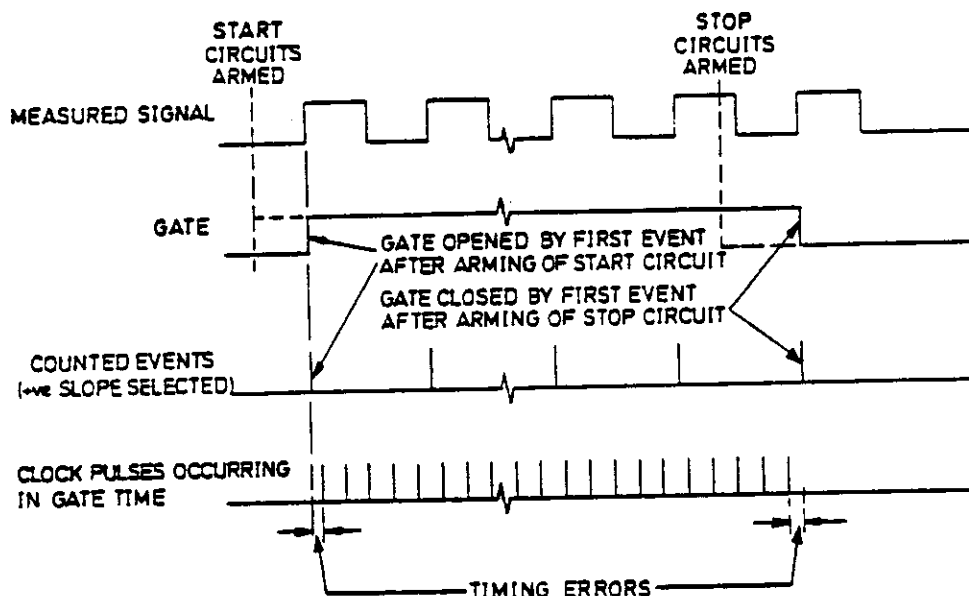

Figure 5.5 - Basic Reciprocity Counting Technique
5.3.3.1.2 The circuits within MCC1 and MCC2 are configured by the microprocessor according to the measurement function selected. The recipromatic counting technique is used. With this technique the measured signal, not the counter clock pulses, controls the start and stop of the measurement period (gate time) as shown in Figure 5.5. The gate time, therefore, extends over an integral number of cycles of the measured waveform. The gate time is measured by counting the clock pulses which occur while the gate is open. This leads to timing errors at both ends of the gate time, as shown. The TEC circuit enhances the measurement accuracy by compensating for these errors.